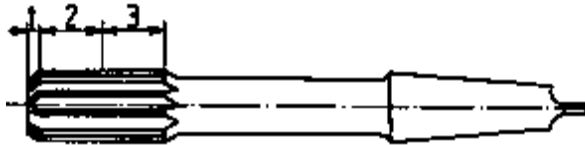
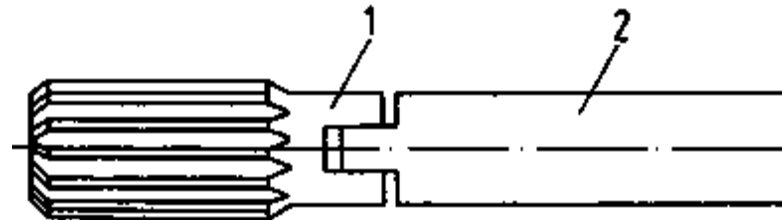
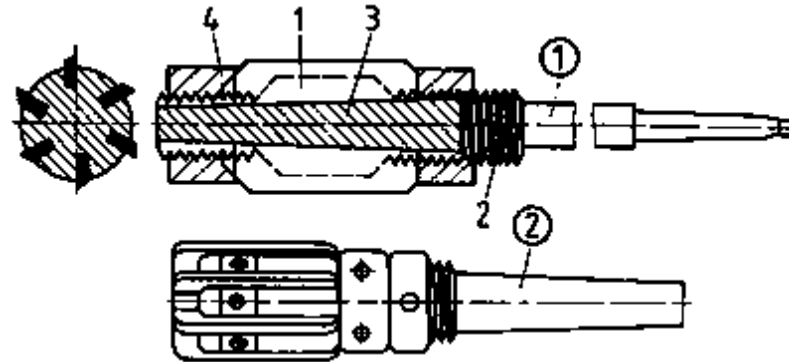

Figure 2 Machine reamer, straight
Figure 6 Arbor-mounted reamer (shell reamer)
Figure 7 Adjustable machine reamer (1) for through holes; (2) for blind holes
Machine reamers used on lathes are: non-adjustable reamers (Fig. 2), arbor-mounted reamers (Fig. 6), adjustable reamers (Fig. 7), spiral-fluted reamers (Fig. 8) and taper reamers (Fig. 9)
- **Reamer for finishing the hole (see Fig. 2).**